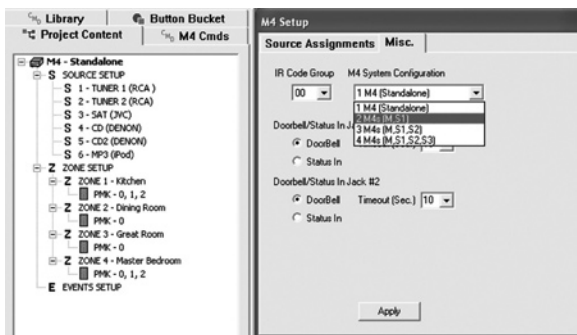

Figure 3 M4 System Configuration (Zone Expansion) Settings
These settings consist of: **1, 2, 3, or 4 Controller Systems**. Refer to **Figure 3**. These System settings are necessary when using multiple controllers for zone expansion.
3. Right-click POWER ON/OFF command on the **Button Properties List** and left-click "Toggle Power Management." On the pop-up, click "Allow component to power 'ON.'" Refer to **Figure 3**.
4. Next, select the Status Input number on the Doorbell/Status jacks on the rear panel of the controller to which you have a sense voltage connected (see Notes 1 and 2 below) that represents the CD2's ON or OFF condition (in this case, **Figure 3**, it is #2). Click OK. The command summary is now shown on the **Command List** as "(TogON-2) POWER ON/OFF Code Set 1 (JVC-CD)." This means that if the CD2 is OFF, the sense voltage will be low and therefore the power command will be allowed to pass to turn the CD2 ON when the CD2 button is pressed. Conversely, if the CD2 were already ON, the sense voltage would be high, thus prohibiting the power command from being sent when the CD2 button is pressed.